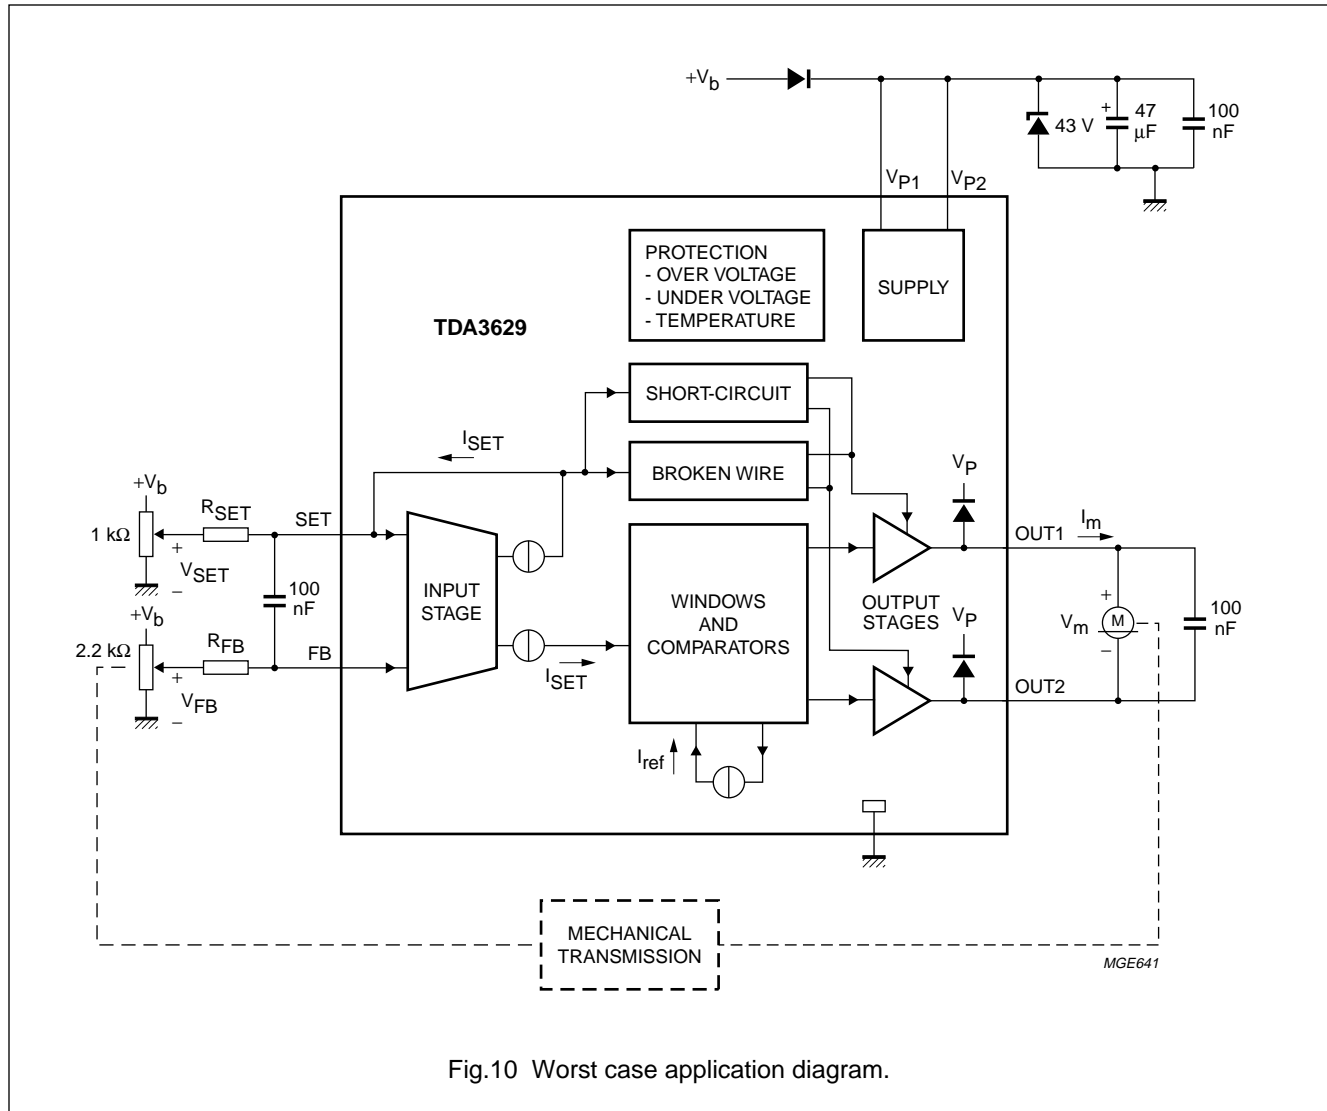

Fig.10 Worst case application diagram.
The timing can be divided into several parts starting from a steady state (see Fig.5, the starting point, and Fig.10 for the application diagram): in this state (until  $T_1$ ) a large reference current is active, indicated by the dotted lines. When the setting potentiometer is rotated (started at  $T_1$  and indicated by  $V_{SET}$ ) and the input current  $I_{SET}$  becomes higher than the reference current  $I_{ref}$  (at time  $T_2$ ), the motor will start and the input current will decrease. At the same time the reference current is switched to a low level. During rotation of the motor the input current will decrease until it becomes lower than this low reference current;
In accordance with the Absolute Maximum Rating System (IEC 134). All voltages are defined with respect to ground. Positive currents flow into the device. Values measured in Fig.10.
- Wave forms illustrated in Figs 7 and 8 applied to the application diagram, Fig.10.
$V_P = 12\text{ V}$ ;  $R_L = 14\ \Omega$ . All voltages are defined with respect to ground. Positive currents flow into the device. Values measured in Fig.10 with  $R_{SET} = R_{FB} = 20\text{ k}\Omega$ ; unless otherwise specified.
Worst case transients that may occur on the battery line  $V_b$  of the application (see Fig.10), are the pulses whose wave forms and the corresponding values are as illustrated in Figs 7 and 8. The signal source which generates these pulses (numbered pulses 1 and 2) has a series resistance ( $R_i$ ) of  $10 \Omega$ . These pulses represent for instance the influence of switching of inductors on the battery line. The signal source which generates pulses 3 and 4 has a series resistance of  $50 \Omega$ . These pulses represent for instance the influence of ignition on the battery line. Their repetition rate is 100 ms.
Two possible application diagrams are shown. The first (see Fig.9) shows the best case: the lowest component count. The second (see Fig.10) shows additional components which may be necessary. Two capacitors are added to meet EMC requirements (one on the  $V_P$  pins, the second one between the set and feedback input pins). A third capacitor has been added across the motor to suppress current spikes. The given values of these capacitors have to be optimized by experiments carried out on the total application. The resistors do not have to have the same value. The voltage hysteresis is set by means of  $R_{SET}$ .